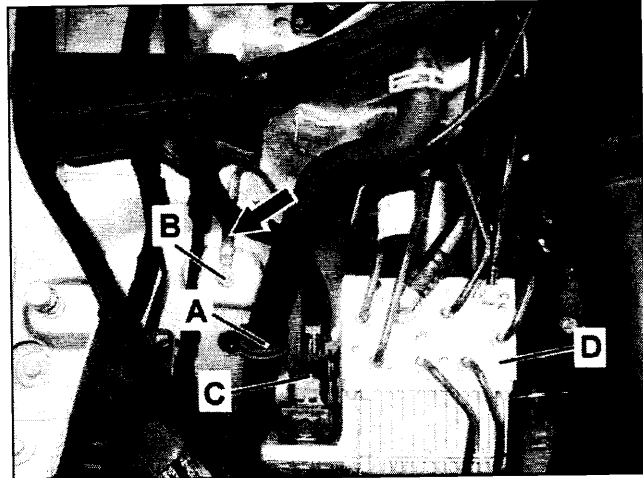
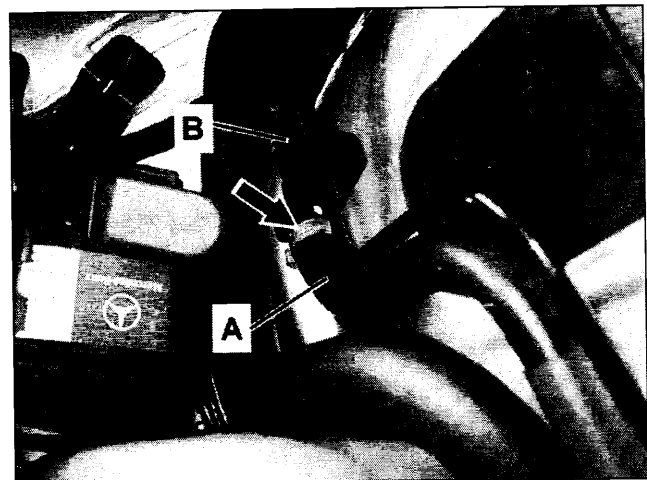

Figure 2
Figure 3
2. Disconnect SBC hydraulic unit harness connector (C, Figure 2).
3. Remove mounting strap (A, Figure 2) and reposition hose and strap (A) to create more working space.
4. Detach SBC hydraulic unit ground wire (arrow, Figure 2) at terminal stud (B).
5. Position harness connector (C, Figure 2) away from SBC hydraulic lines to prevent brake fluid from dripping on SBC harness connector and SBC wiring harness.
6. Remove SBC hydraulic unit (D); refer to WIS: AR42.46-P-0010R, steps 1 – 11.
8. Remove suction hose (A, Figure 3):
- Remove and discard hose clamp (arrow) where suction hose is connected to suction line (B).
Do not use sharp-edged tools (e.g., screwdriver) to remove suction hose (A, Figure 3) from SBC suction line (B), this may cause damage to the suction line (B) and possible SBC brake system malfunctions.
- Carefully detach suction hose (A, Figure 3) from the suction line (B) using a plastic wedge (Example: Special Tool: W110 589 03 59 00).
- When removing suction hose (A, Figure 3), do not bend suction line.
- To prevent brake fluid from running out and to prevent contamination in the brake system, the suction hose (A, Figure 3) and line (B) are to be plugged using suitable plugs from the stop plug kit (Special Tool: W129 589 00 91 00).
- Discard old suction hose (A) and clamp (arrow) after removal.